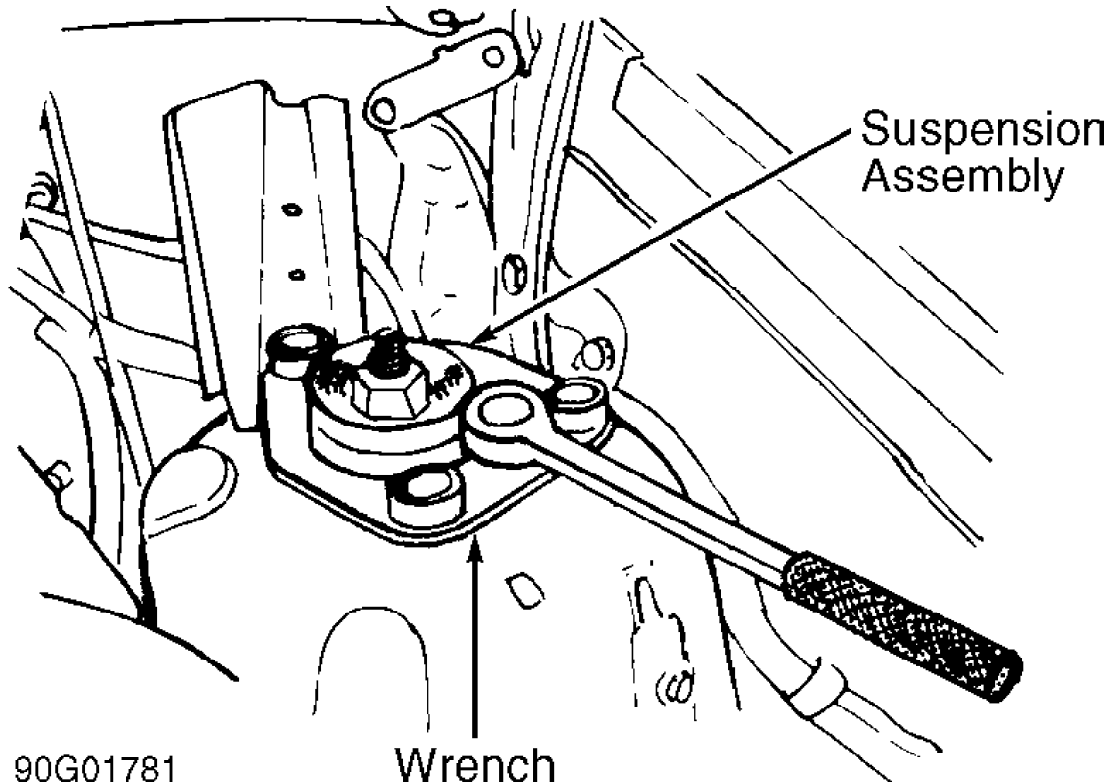

Fig. 1: Turning Front Suspension Assembly (960)
2) Loosen rear bolt on retaining plate. Set Wrench (5038) on rear bolt and turn suspension assembly so hole in retaining plate passes hole in suspension tower at least .12" (3 mm). See Fig. 1. Mark position when hole can no longer be seen and turn wrench an additional .12" (3 mm).